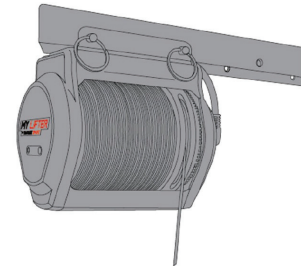

fig 3.7
17. Insert the two included quick-release pins through the holes in the MyLifter frame and the Smart Track. Make sure the pins go all the way through both sides of the MyLifter frame and Smart Track. Repeat this for each MyLifter that you are installing. (fig 3.7)